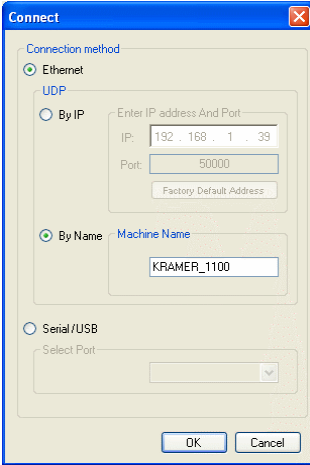

Figure 26: Connect Ethernet by Name
- To identify the device by specifying the device name, click **BY NAME** (see Figure 26), enter the name of the device under Machine Name and click **OK**
- Click the **Connect** button to open the *Connect* window (see Figure 26).